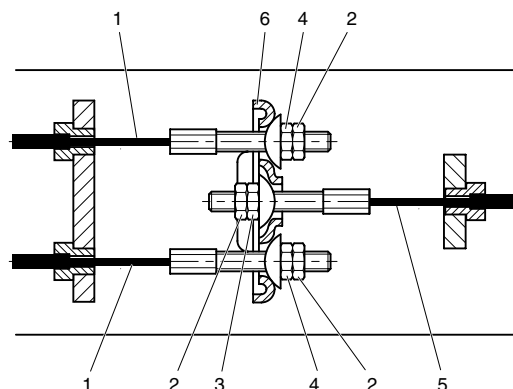
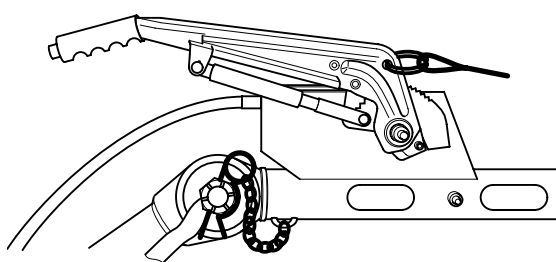

Fig. 5.7 Brake cable arrangement
Fig. 5.8 Hand brake lever downward - brake not operated
Check the position of the equalizer (Fig. 5.7, 6) with the parking brake actuated.
Check all lock nuts (Fig. 5.7, 2).
1. With the towing eye pulled out in the outmost position and the hand brake lever in the downward position (Fig. 5.8), loosen the lock nuts (Fig. 5.7, 2). Turn adjusting nuts and brake cable nuts (Fig. 5.7, 4) clockwise until there is no slack in the brake mechanism.
The equalizer (Fig. 5.7, 6) must remain perpendicular to main brake cable (Fig. 5.7, 5).
2. Apply the hand brake lever several times and repeat the adjustment. Tighten the nuts with their lock nuts (Fig. 5.7, 2). Remove the jack and the blocks.